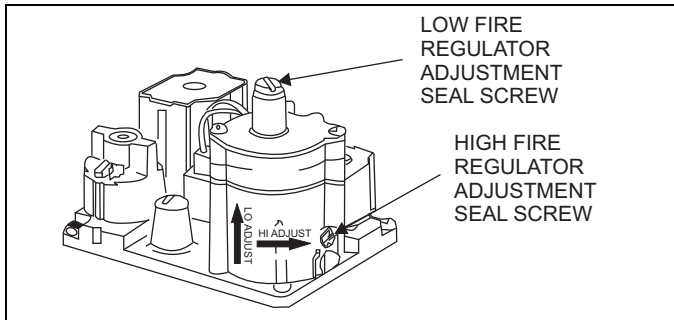

FIGURE 4: 2 Stage Valve Top
6. If adjustment is necessary, set to the specifications below, after adjustment, shut down unit, replace plug, restart unit and check for gas leakage. See Figure 4.